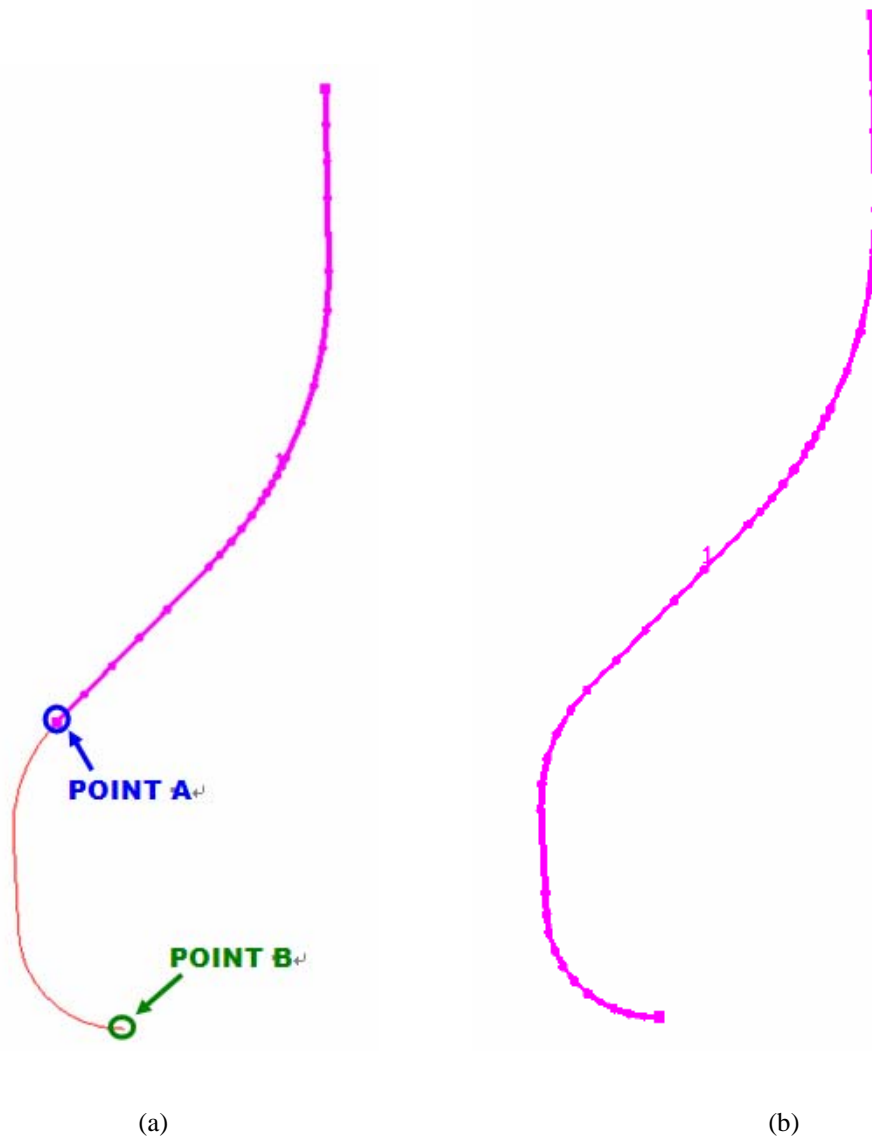

Figure 9.4.15 Trim Drawbead (a) Before trim (b) After trim
**NOTE:** The *TRIM* function also can be utilized to recover the *TRIMMED* drawbead along the original drawbead line. For example, a drawbead as illustrated in Figure 9.4.15 has been *TRIMMED*. The user can recover the trimmed drawbead.
1. Select the **END POINT A** as illustrated in Figure 9.4.15.